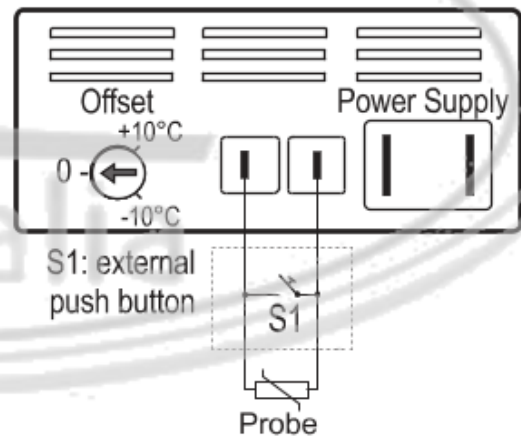

Fig.2
External push-button connection (Fig.2)
2. Connect the push button in parallel with the probe as shown in Fig.2.